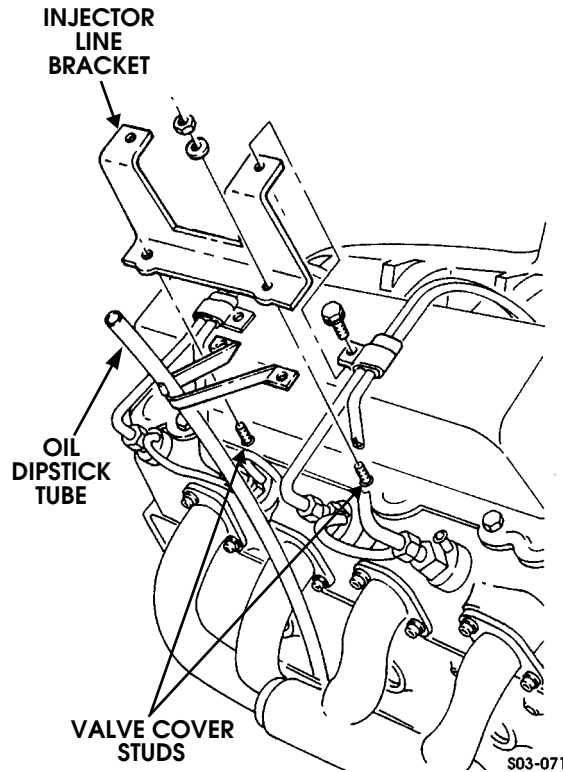

Figure 3-52: Injection Line Bracket Removal/Installation (Driver-Side)
2. Install bracket on valve cover studs (Figure 3-52). Tighten bracket nuts to 13-20 lb-ft (18-27 N•m).